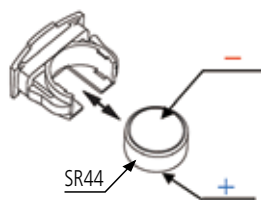

Fig. 1
3. Use an SR44 battery (**Order No.938882**). (**Fig. 1**)